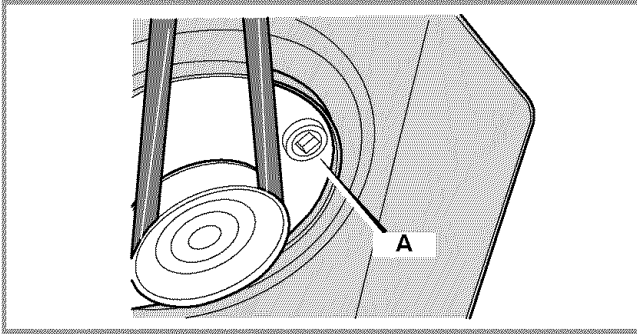

Figure 20: Oil Drain Plug
- 3 With engine off but still warm, remove the oil drain plug (A) as shown in Figure 20. Drain the oil into an appropriate receptacle.